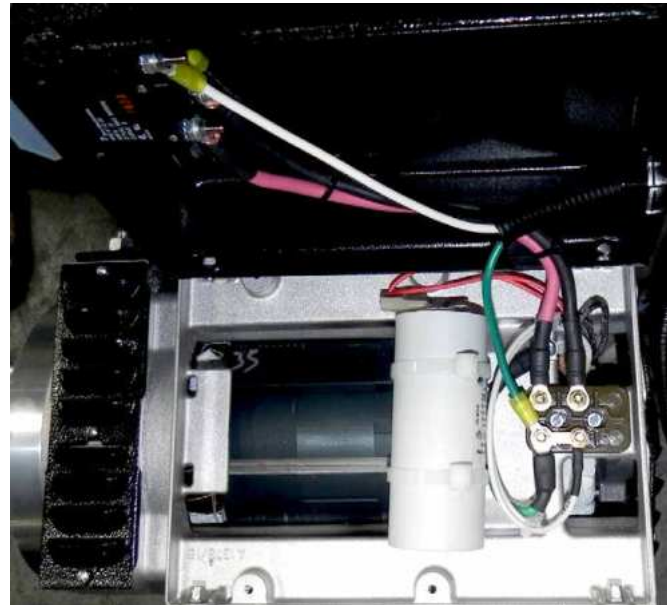

Figure 5-26. Generator
1. Use a volt meter to measure between the two main input wires L-1 (black wire) and L-2 (white wire) at the generator. **(Figure 5-26)** If you measure from L-1 to the frame of the paver, or ground, the voltage will be half the rated output of the generator.